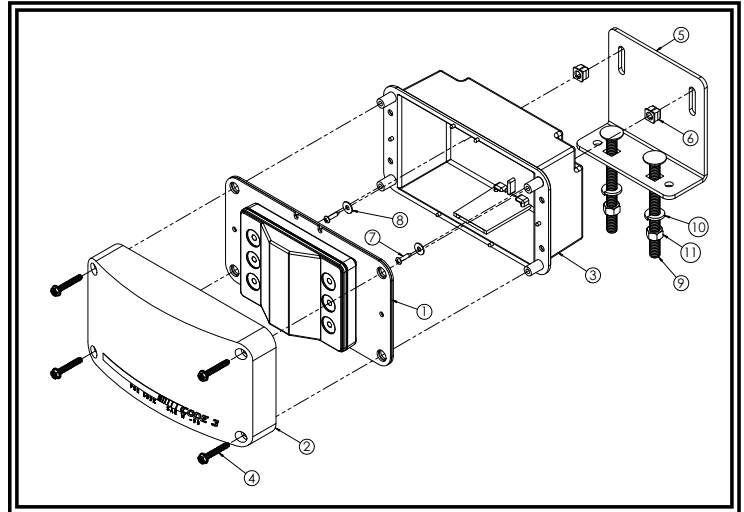

Figure 1
2. Using the supplied lockwashers, nuts, and carriage bolts, mount the bracket to the drilled holes. (See Figure 1.) Insure that the fasteners are sufficiently tight.
5. Using the supplied screws and washers (Parts #7 and #8, see Figure 1), attach the housing to the inserts in the bracket. Ensure that the fasteners are sufficiently tight.